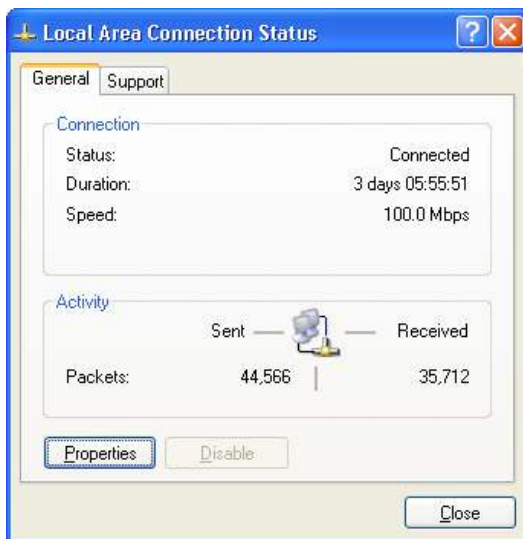

Figure 4. The Local Area Connection Status Dialog
2. In the panel labeled **LAN or High-Speed Internet**, double-click the **Local Area Connection** icon. The **Local Area Connection Status** dialog box appears, as shown in Figure 4.
- Enter values for the IP address and subnet mask to match those shown in Figure 4. Leave any remaining fields blank. In this example, an IP address of 192.168.1.21 and a subnet mask of 255.255.255.0 are being assigned to the PC. These values place the PC on the same network as the ZPAK II unit, and do not conflict with the IP address of ZPAK II.